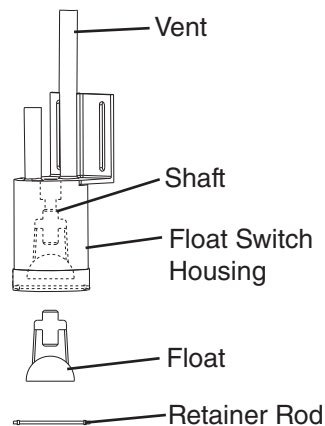

Fig. 3
- 7) Remove the retainer rod from the bottom of FS housing, then remove the float. Be careful not to bend the retainer rod excessively when removing it. See Fig. 3.